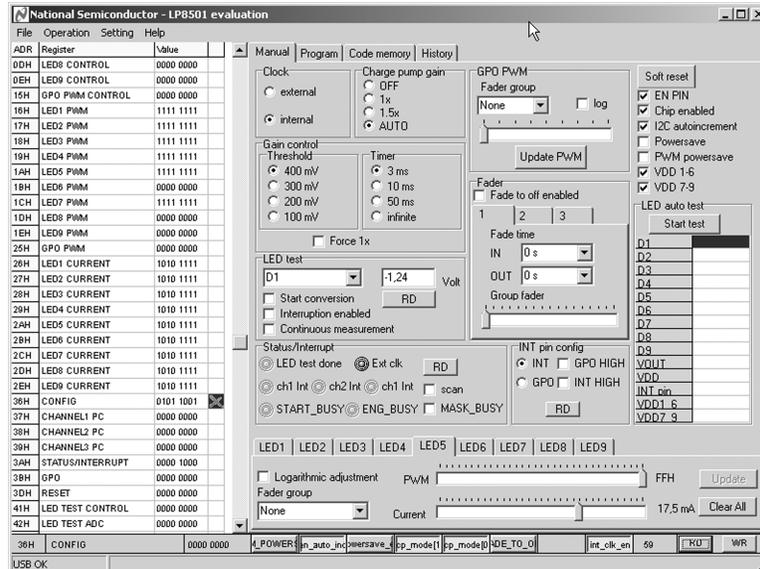
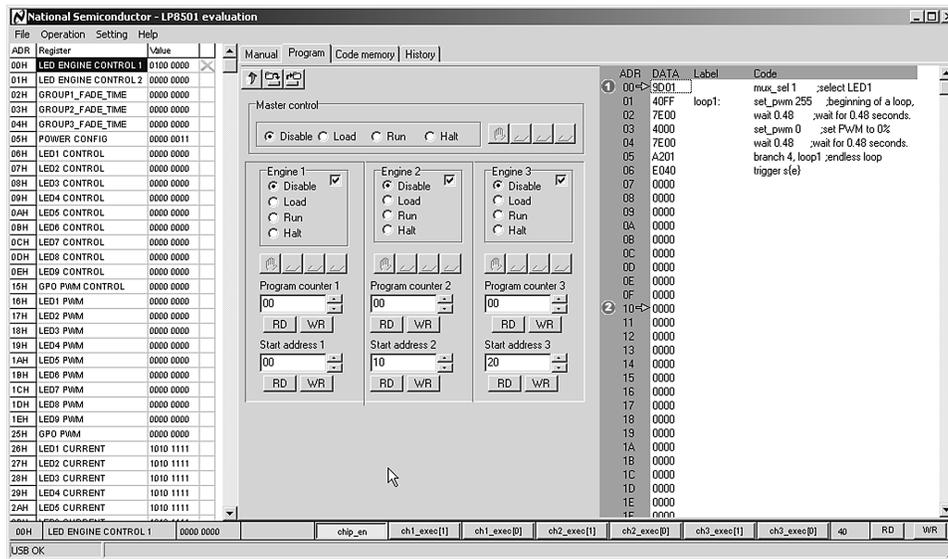
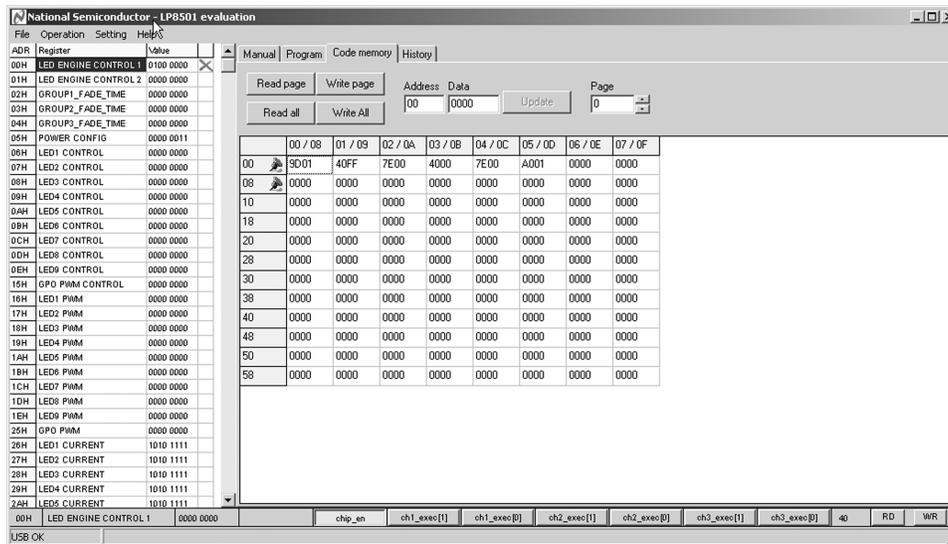
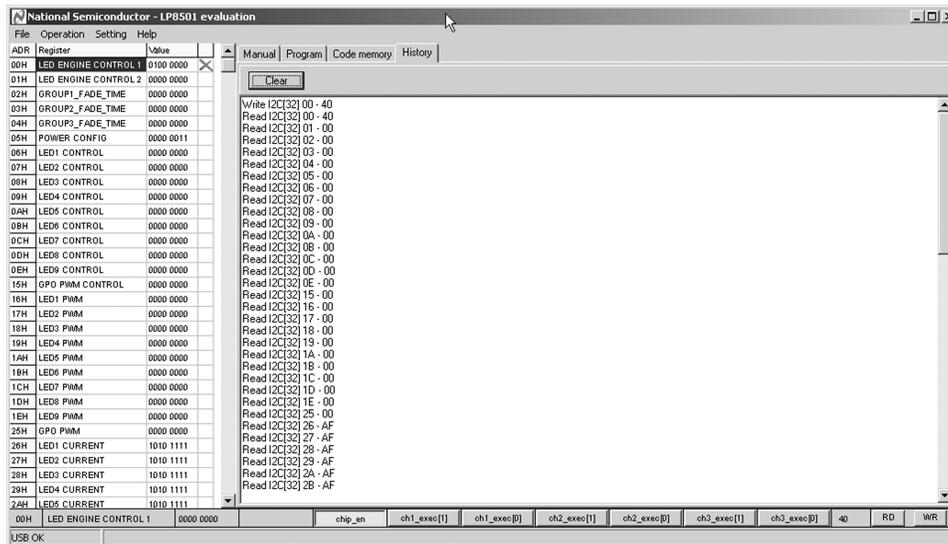

Figure 4. LP8501 Evaluation Software Control Panel
Figure 7. Program Tab of the LP8501 Evaluation Program
Figure 8. Code Memory Tab of the LP8501 Evaluation Program
Figure 9. History Tab of the LP8501 Evaluation Program
5. The evaluation kit is now fully up and running and the device can be controlled through the PC software. Figure 4 shows the evaluation software user interface (Control Panel).
The register views can be seen all the time. Otherwise controls are set into four tabs. Manual tab (open in Figure 4) includes the controls for almost all of the functions in the device. From the Program tab (See Figure 7) the user can control the lighting engines of the device. Code memory tab (see Figure 8) is used to read and write the device program memory. From History tab (see Figure 9), the user can see all the register reads and/or writes performed when controlling the device.
To upload code into the LP8501 SRAM start the LP8501.exe evaluation software. Select the Program tab (see Figure 7) The Program tab is divided into two parts: the right contains the program's source code and the compiled version of the code; the left part contains program execution engine controls. Load the generated *.hex file into the evaluation software view: Click on Open Source File (Figure 13), browse the file and click on Open. To download the machine code into the LP8501, click on download button Figure 14. Pressing this button sets all the engine modes to Load.
- **Load** — In this mode writing to program memory is allowed. All the three engines are in hold while one or more engines are in load program mode. PWM values are frozen, also. Program execution continues when all the engines are out of load program mode. Load program mode resets the program counter of the respective engine. Load program mode can be entered from the disabled mode only. Entering load program mode from the run program mode is not allowed. Note that this does not automatically load the program opened with Figure 13. When using this operation mode, one must write the program through the Code memory tab Figure 8.
- **Run** — This mode executes the instructions stored in the program memory. Execution register (ENG1_EXEC etc.) bits define how the program is executed (hold, step, free run or execute once). Program start address can be programmed to Program Counter (PC) register. The Program Counter is reset to zero when the PC's upper limit value is reached.